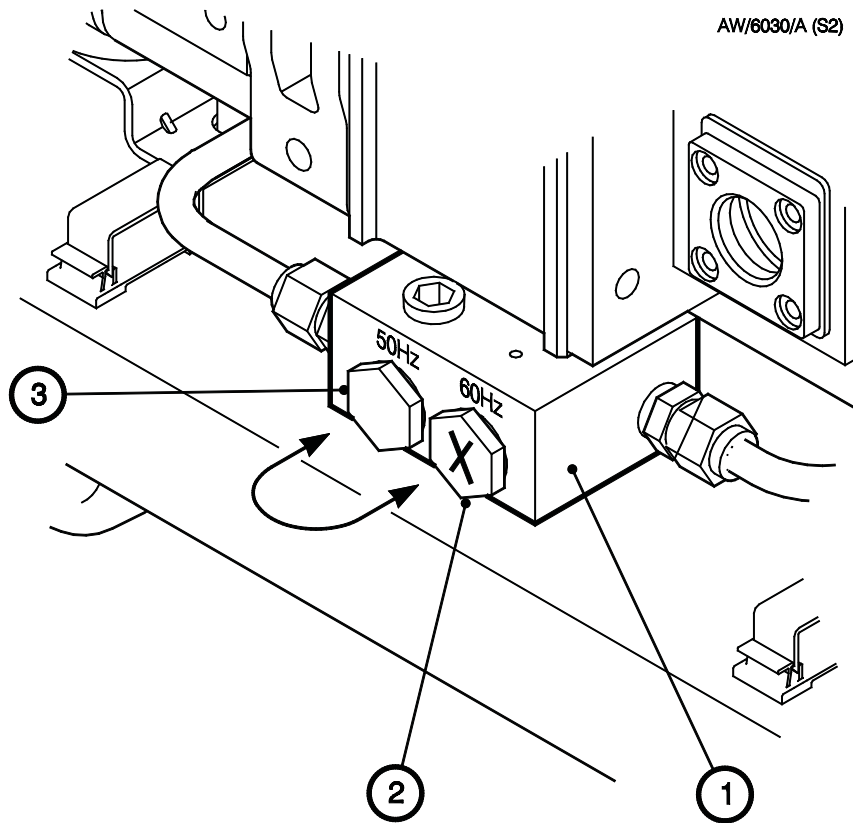

Figure 3-4 - HCDP headplate cooling - water manifold (as supplied)
As supplied, the nitrogen and cooling-water connections are at the rear of the iH system (as shown in Figure 1-5) and the cooling water is configured for operation at 60 Hz (as shown in Fig 3-4). If required, you can reconfigure the iH system so that the nitrogen and/or cooling-water connections are at the front of the iH system (see point 1 below) or for operation at 50 Hz (see point 2 below).
2. See Figure 3-4. If the iH system will be operating at 50 Hz, switch the positions of the control plug (3) and the blanking plug (2) in the HCDP headplate manifold (1) to ensure optimal temperature. The control plug (marked with an 'X') should now be in the 50 Hz port and the blanking plug in the 60 Hz port.